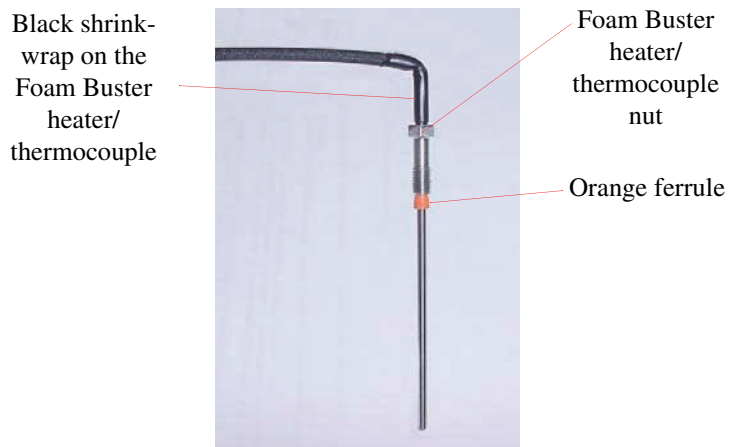

Figure 8.7. Foam Buster heater/thermocouple
2. Slide the nut (PN 321469) and orange Tefzel® ferrule (PN 321678) onto the Foam Buster heater/thermocouple (Figure 8.7).
6. Position the black shrink-wrap on the Foam Buster heater/thermocouple so it sits flush with the top of the nut (Figure 8.7).